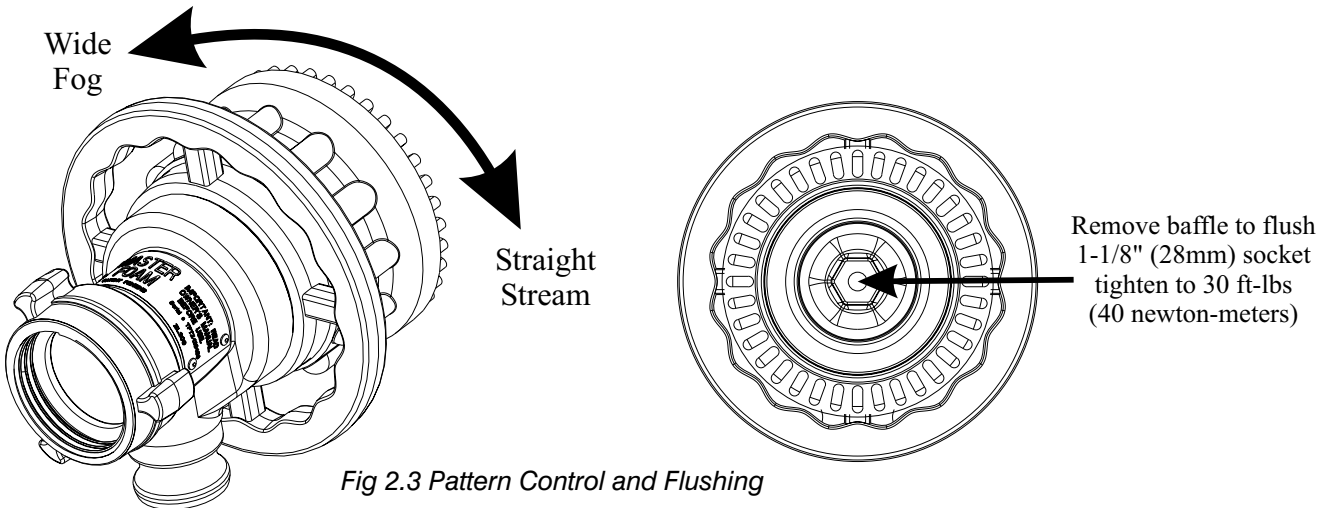

Fig 2.3 Pattern Control and Flushing
The MASTER FOAM's spray pattern is adjustable from straight stream to a 90 degree wide fog. Turning the stream shaper clockwise (as seen from the operating position behind the nozzle -see figure 2.3) moves the shaper to the straight stream position. Turning the shaper counterclockwise will result in an increasingly wider pattern. Only 90 degrees of rotation is required to go from wide fog to straight stream.
- Unscrew baffle (see figure 2.3) using 1-1/8 inch (28mm) socket.